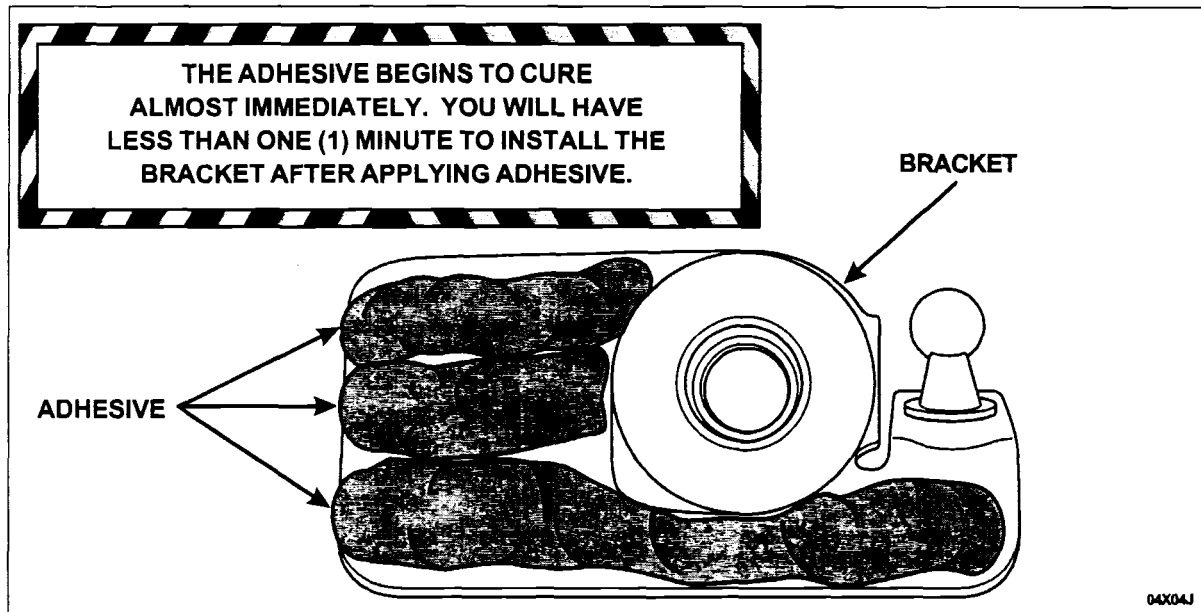

FIGURE 10
After the primer has dried for fifteen (15) minutes, apply three (3) **large** beads (9-10 mm in diameter) of adhesive to the backside of the **new** left-side bracket. See Figure 10.
14. Apply three (3) **large** beads (9-10 mm in diameter) of adhesive to the backside of the **new** right-side bracket. See Figure 10.